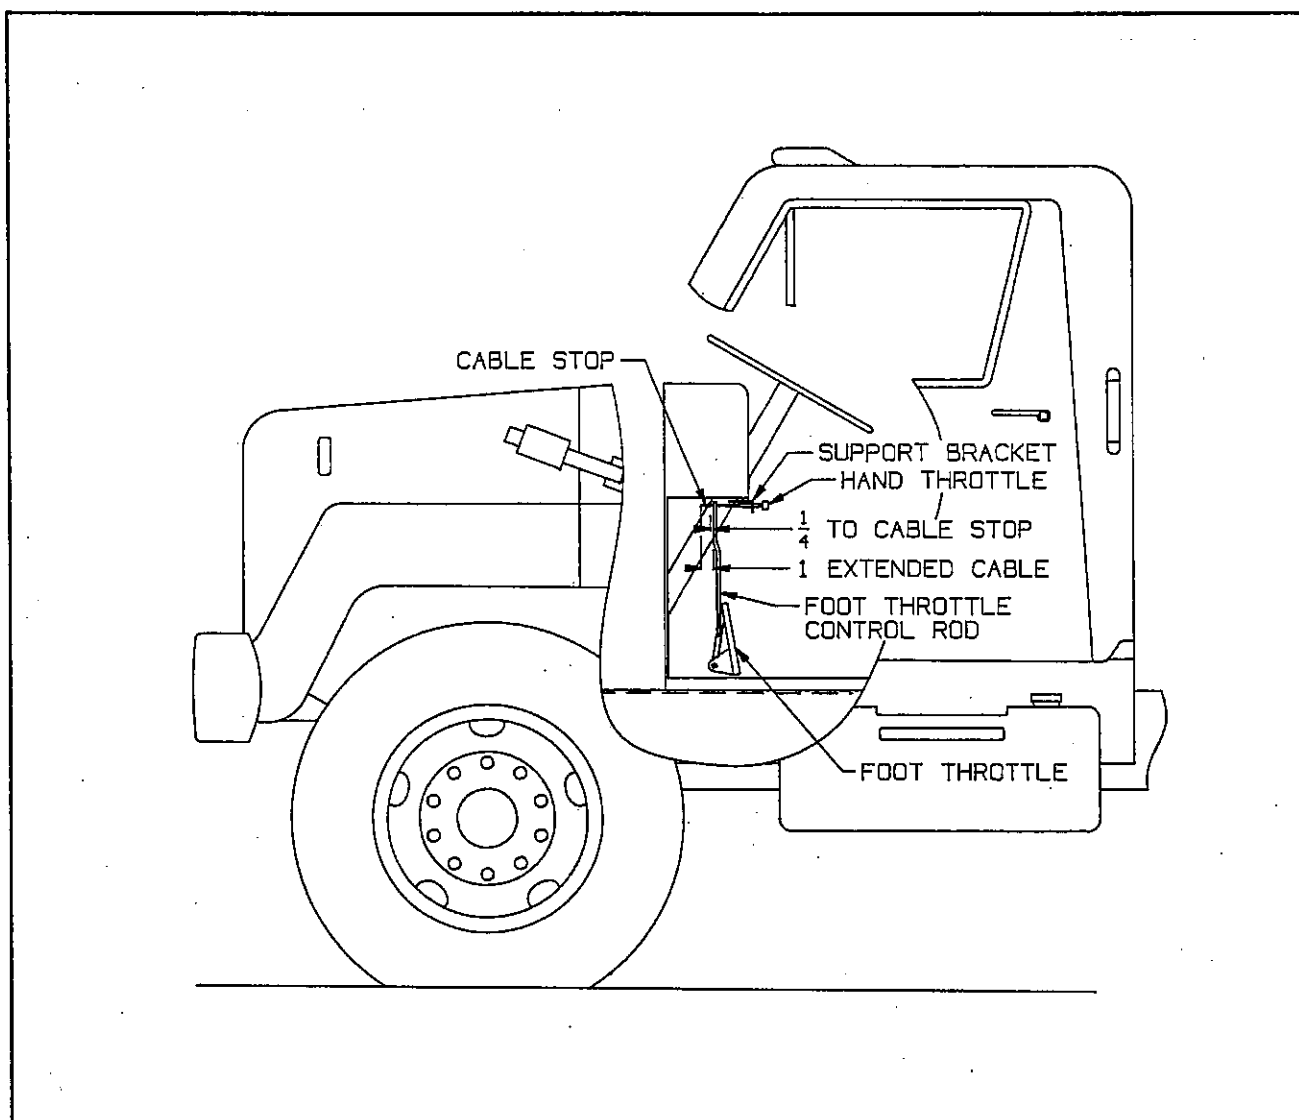

Figure 4-11 IH Throttle Diesel Installation
**4-10.6** Install a cable stop on the extended end of the hand throttle cable 1/4" from the foot throttle control rod. (See Figure 4-11)